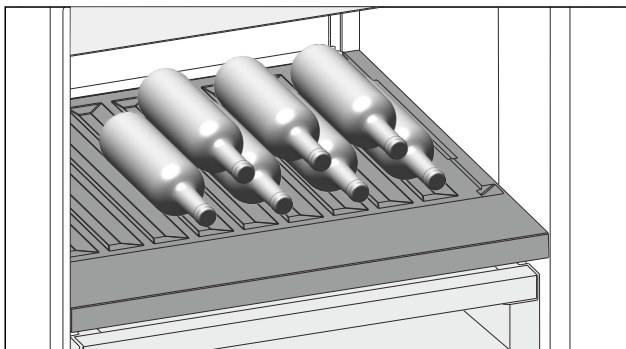

Fig. 163 Example illustration
- ▶ Place bottles in the back row with their bases against the back wall. (see Fig. 163)